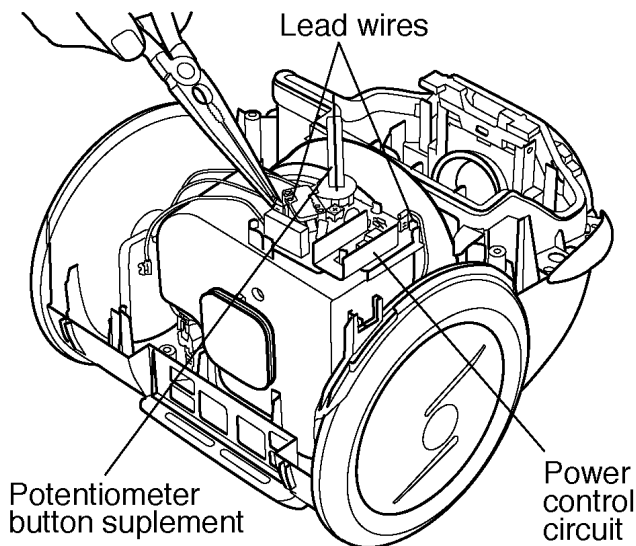

fig.12
3. Remove from power control circuit the lead wires (provided with quick-connect terminal) and the potentiometer button supplement. (Fig. 12)